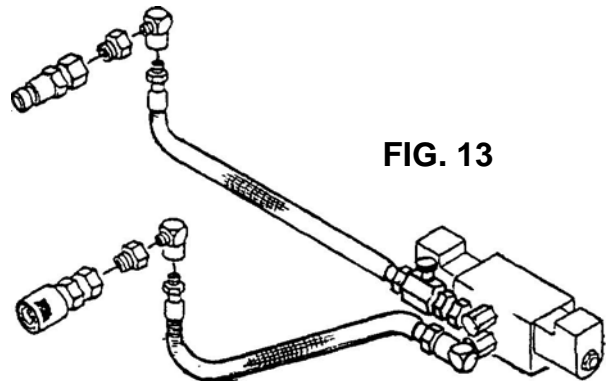

FIG. 13
- (1) Attach a 1/2" flush face coupler male onto the hose from the upper rear port of the manifold. Use a 1/2-14 NPTF x 1-1/16-12 male ORB .ADAPTER, 1/2-14 NPTM x 3/8-18 'N'PTF reducing bushing and a 3/8 x 90° steel 51 elbow on the hose.
- (2) Attach a 1/2" flush face coupler female onto the hose from the lower rear port of the manifold. Use a 1/2-14 NPTF x 1-1/16-12 male ORB adapter, 1/2-14 NPTM x 3/8-18 NPTM reducing bushing and a 3/8 x 90° steel st elbow on the hose. Use a thread sealant on the threads. See FIG. 13